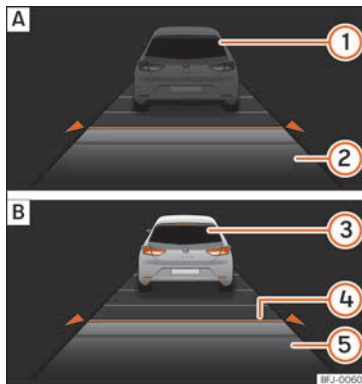

Fig. 263 On the instrument panel display: **[A]** ACC inactive (Standby). **[B]** ACC active.
Indications on the display » **Fig. 263**:
When the ACC is connected, the green control lamp (ⓘ) will light up on the instrument panel, and the programmed speed and ACC status will be displayed »» Fig. 263.
- Next, press button **SET** » Fig. 266 ② or move the lever to position **RESUME** » Fig. 265 ②. At this moment the ACC is activated and the current speed and distance are programmed. The picture in the box will change to Active mode » Fig. 263 ⑧.
- To set the speed, move the third lever up \uparrow or down \downarrow to the desired speed » Fig. 263 ⑥. The speed adjustment is made at 10 km/h (6 mph) intervals.
The instrument panel display modifies the selected distance » Fig. 263 ④. There are 5 distance levels to choose from. SEAT recommends level 3. The set distance can be changed when the vehicle is stopped or while driving » \triangle .